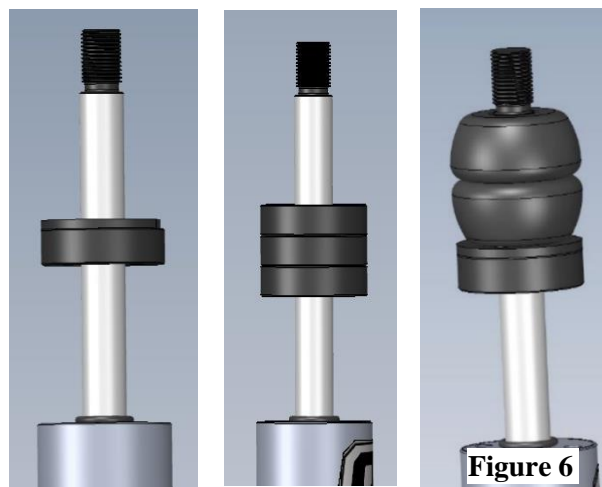

Figure 6
- 5) Slide two rubber bump stops (per shock) onto the shock rod above the packer shims with the larger diameters of the bump stop facing each other. Light lubrication will aid in the bump stop installation. **(Figure 6)**